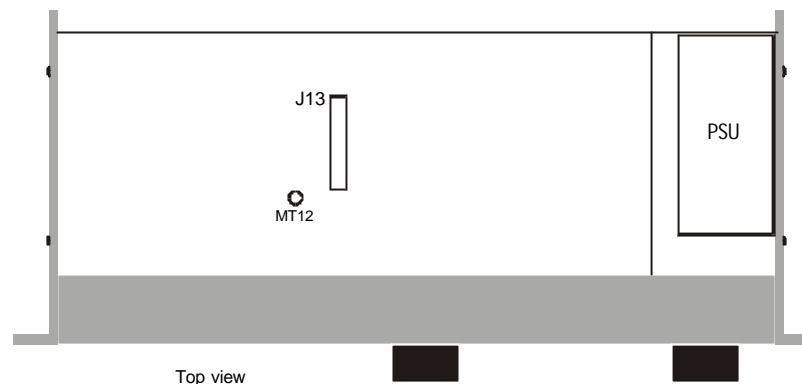

Fig. 4: Location of MT12 and J13.
11. Mount the metal spacer (566007030) at MT12 by use of 1 screw (563005030) and 1 star washer (565052030). See fig 4.